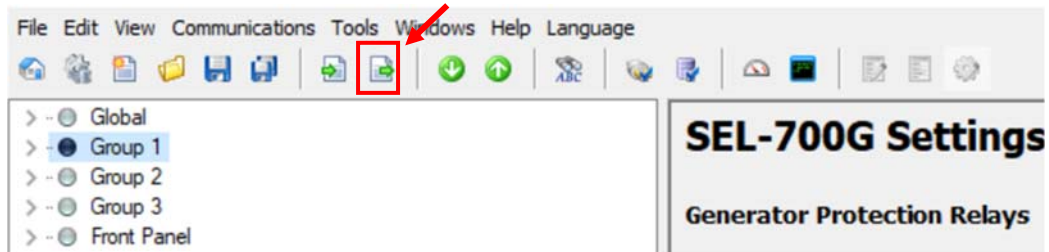

Figure 44: Send Settings to 700G
17. Send the relay settings to the 700G by clicking the button as shown in Figure 44.